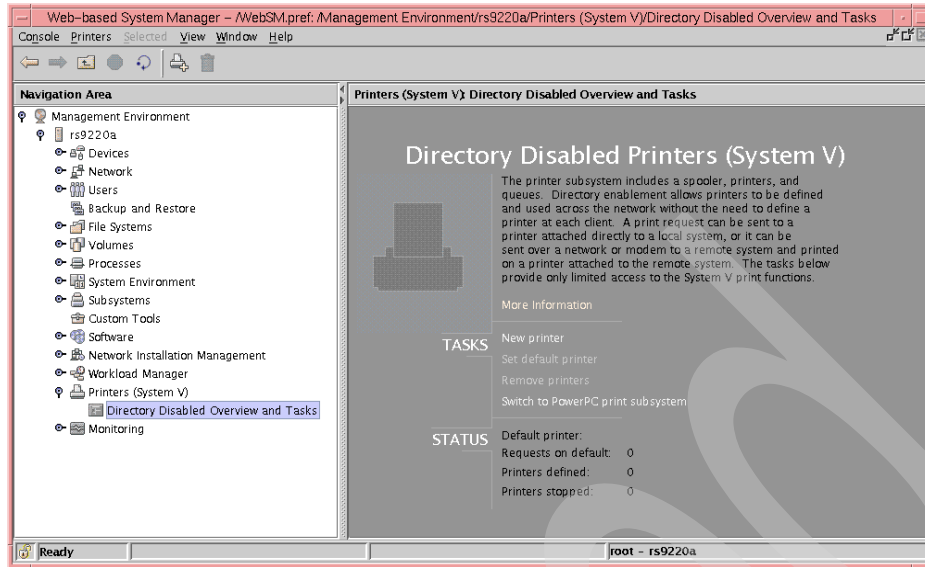

Figure 6. Display for Directory Disabled Printers (System V)
- Web-based System Manager provides a visual indicator. As you can see in Figure 6 on page 66, if the System V print subsystem is active, you can see in the navigation areas as well as in the Overview and Tasks panel that the System V print subsystem is named explicitly.
In Web-based System Manager, select the Printers (System V) plug-in from the left frame of the console (Figure 2 on page 58). AIX 5L V5.0 currently only supports Directory Disabled printers, so open that container. This will display the panel in Figure 6 on page 66.